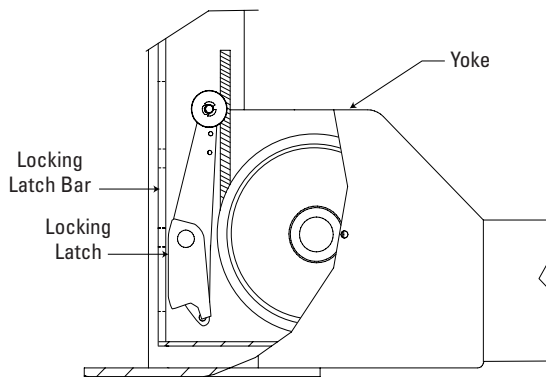

Fig. 24
K. Actuate air valve and check latch operation on all four corners. The locking latches should pull in beyond yoke ends to clear the latch bars located in all four columns, Fig. 24.